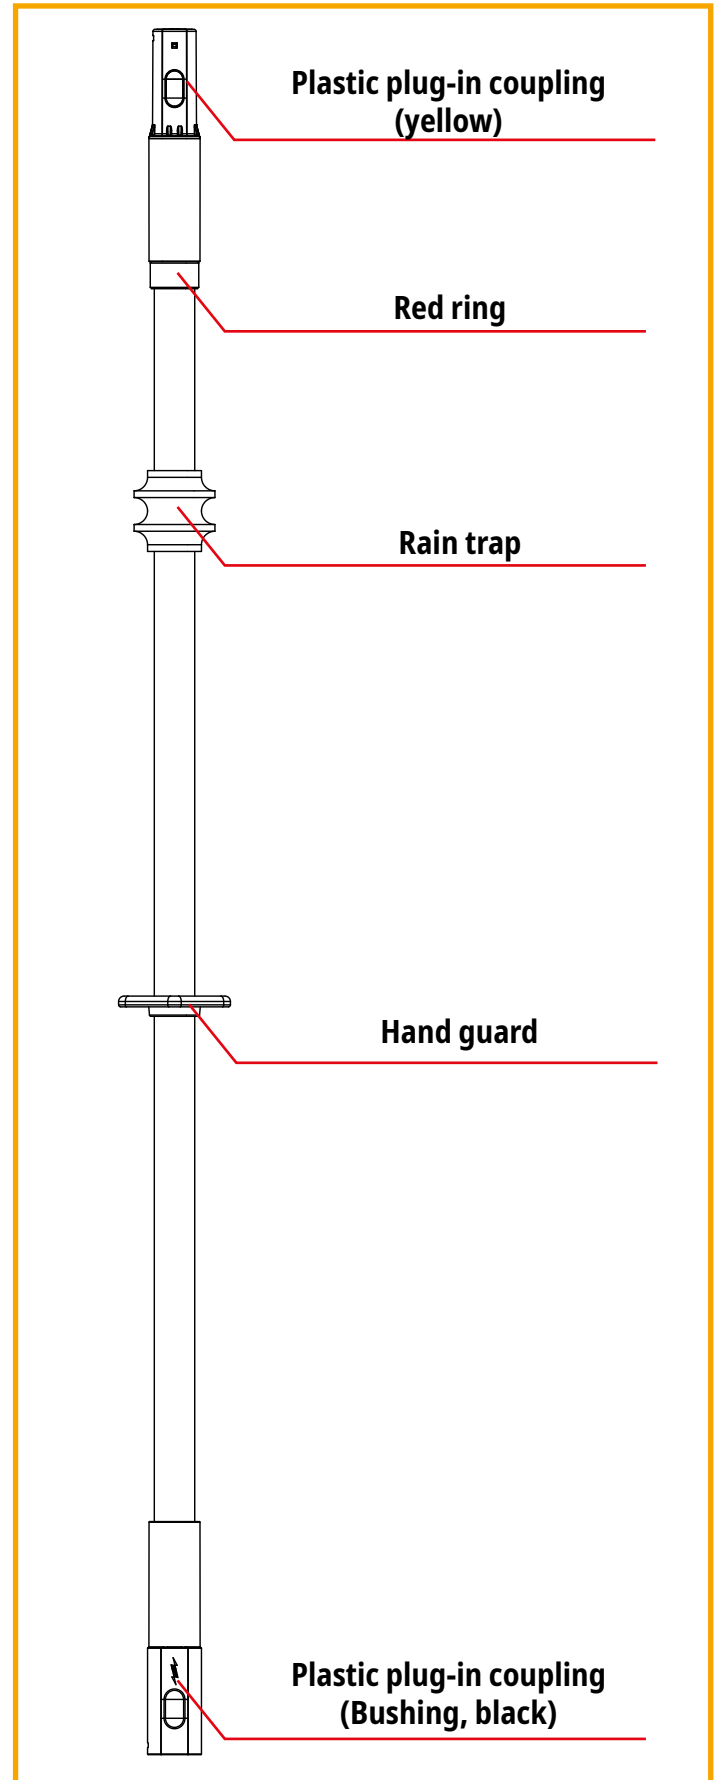

Figure 2
- ➔ The hand guard and red ring mark the insulating element rated for the nominal voltage (see Fig. 2, page 8).
If the insulating stick is used as a switching stick kit or operating stick kit, only those individual parts with a yellow plastic plug-in coupling may be used above the red ring (see Figure 2).